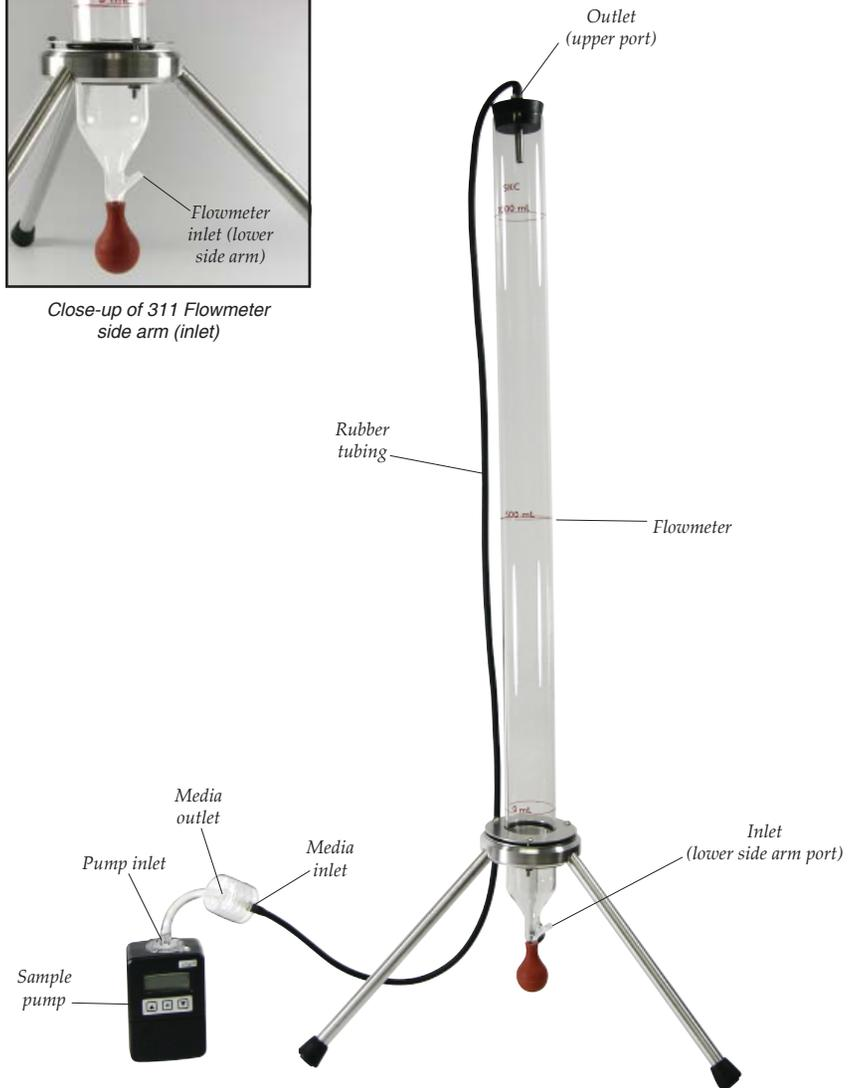

Figure 1.
*To calibrate a sample pump*, connect the pump, with the sampling media in line if applicable, to the appropriate end of the flowmeter. If the pump **draws** air, connect it to the rubber tubing attached to the rubber stopper (see Figure 1 on reverse side). If the pump **blows** air, connect it to the lower side arm of the flowmeter using rubber tubing. The 311 Laboratory Film Flowmeter Kit is calibrated to within ± 2% of the volumes marked on the flowmeter.